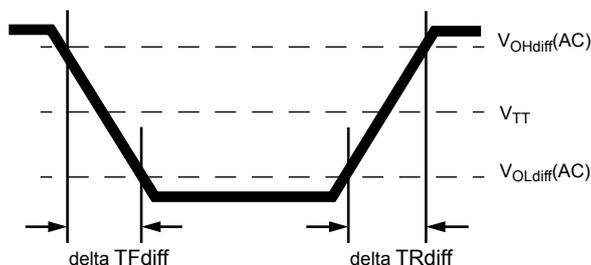

Figure 7. Differential Output Slew Rate Definition
With the reference load for timing measurements, output slew rate for falling and rising edges is defined and measured between VOLdiff(AC) and VOHdiff(AC) for differential signals as shown in Table 15 and Figure 7.
The reference load for ODT timings is defined in Figure 7.